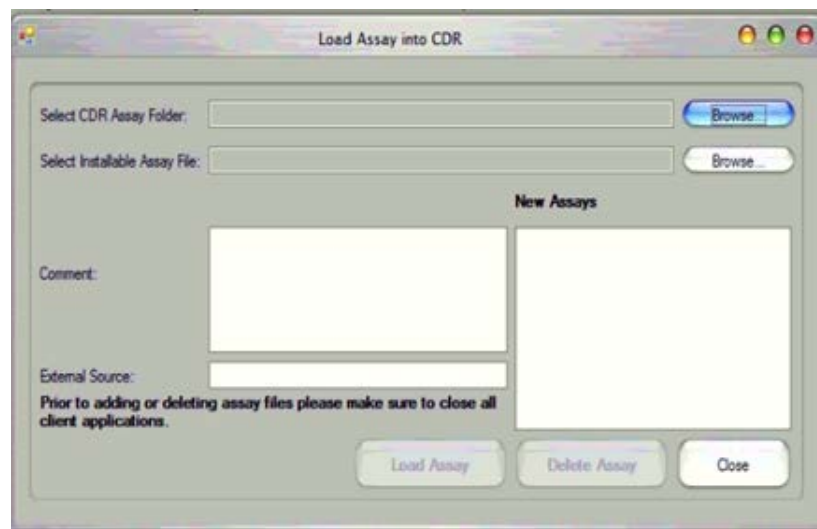

Figure 16. Load Assay into CDR Window
- 3 In the LabChip Reviewer software on the LabChip GX Touch instrument, click **Tools > Load Assay into CDR**. The Load Assay into CDR window opens as shown in Figure 16.
- 2 In the LabChip Reviewer software on the LabChip GX Touch instrument, click **Tools > Load Assay into CDR**. The Load Assay into CDR window opens as shown in Figure 16.